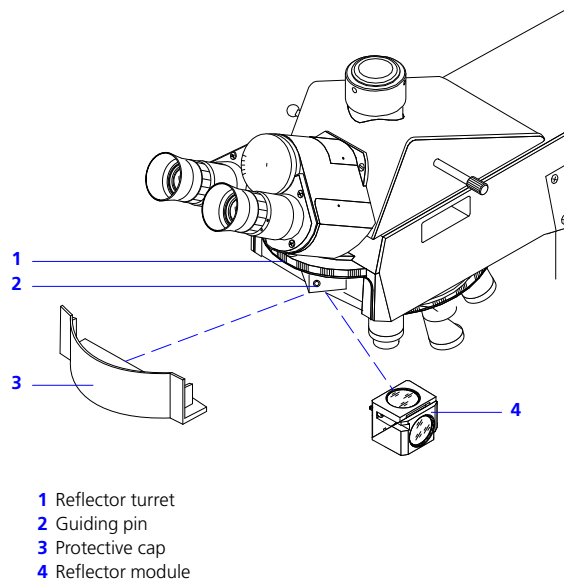

Fig. 100 Attachment of reflector modules
- Swing the required opening of the reflector turret (1) into the beam path. Then turn the reflector turret clockwise by two clickstops (manually or using microscope software). The opening required is now accessible on the front right of the reflector turret (see Fig. 100).
- Grasp protective cap (3) by the top and bottom (fluted surface) and remove in a forward direction.
- Position module so that guiding pins (2) on the reflector turret engage with the appropriate holes on the module.